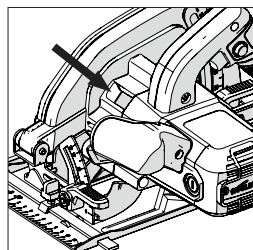

Fig. 3
- Locate the machines arbor lock button (which is similarly positioned on all machines). Lock the machines arbor by operating the arbor lock button. (Fig. 3).